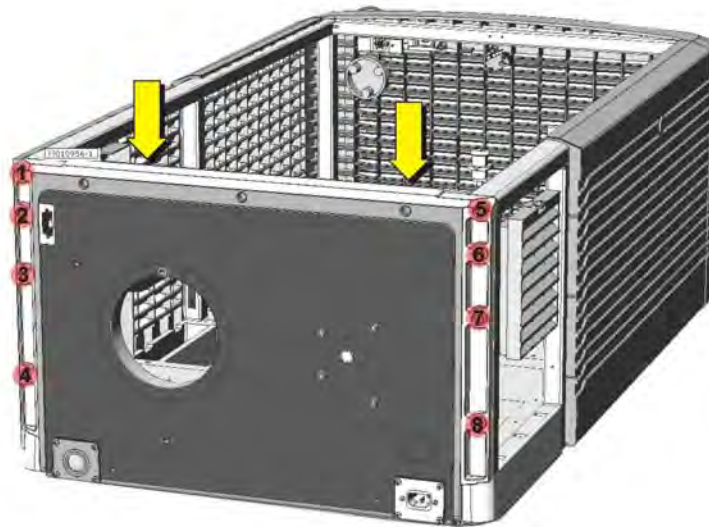

Figure 5-26 Remove Front Projector Plate
6. Remove the front plate of the projector by removing the 10 M6 screws (eight along front and two inside the projector housing) and loosening the two thumbscrews on the front bracket (behind the front plate). **(Figure 5-26)**